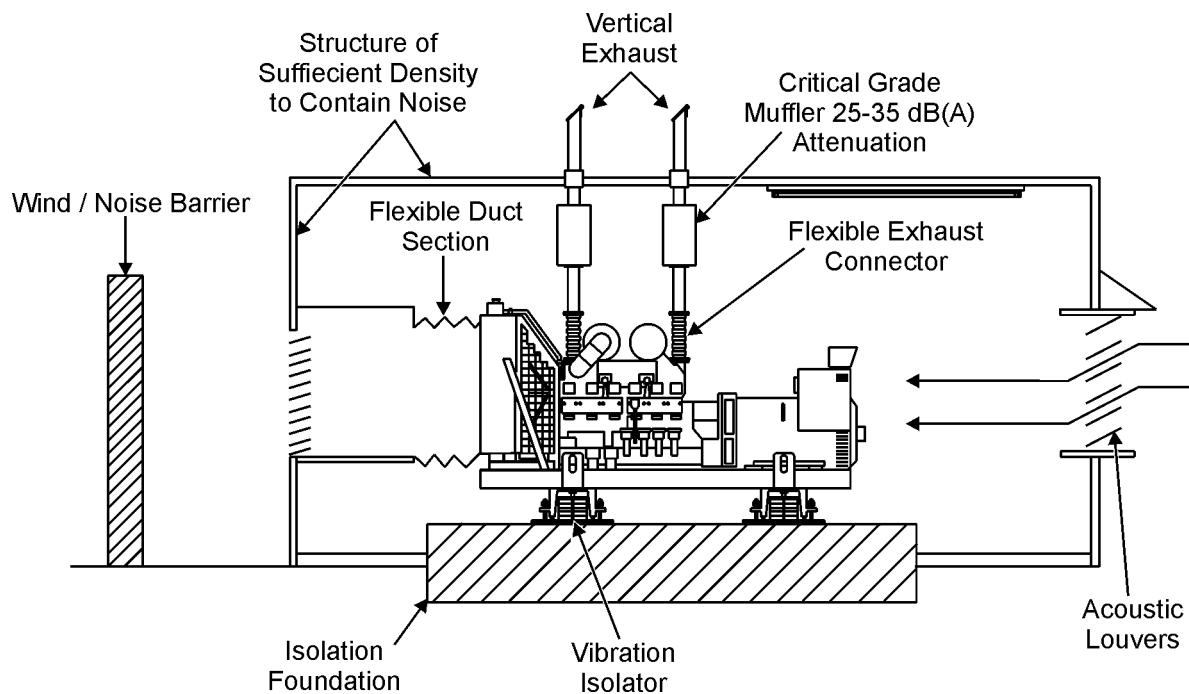

Figure 5. Reducing Noise
3. See Figure 5 for typical measures in reducing noise.
Figure 5 below illustrates installation methods for reducing noise level to achieve a quieter operating generator set.